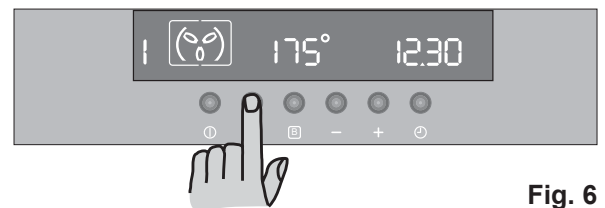

Fig. 6
1) Switch on the oven by pressing the ① button.
2) Press button □ to select the required oven function. Each time button □ is pressed, a cooking symbol will come on the display and the corresponding cooking function number will come to the left of the currently selected cooking function symbol (Fig. 6).